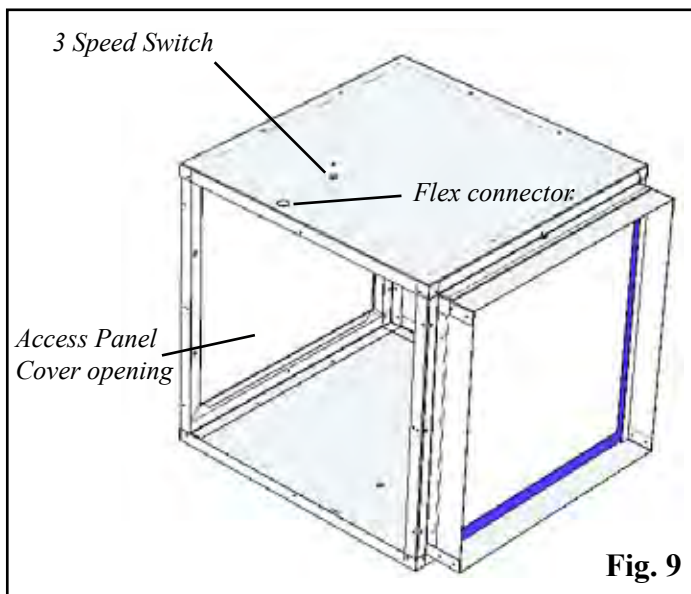

Fig. 9
6. Pry out the two knockouts in the top of the box and install the flex connector and the switch. See Fig. 9.